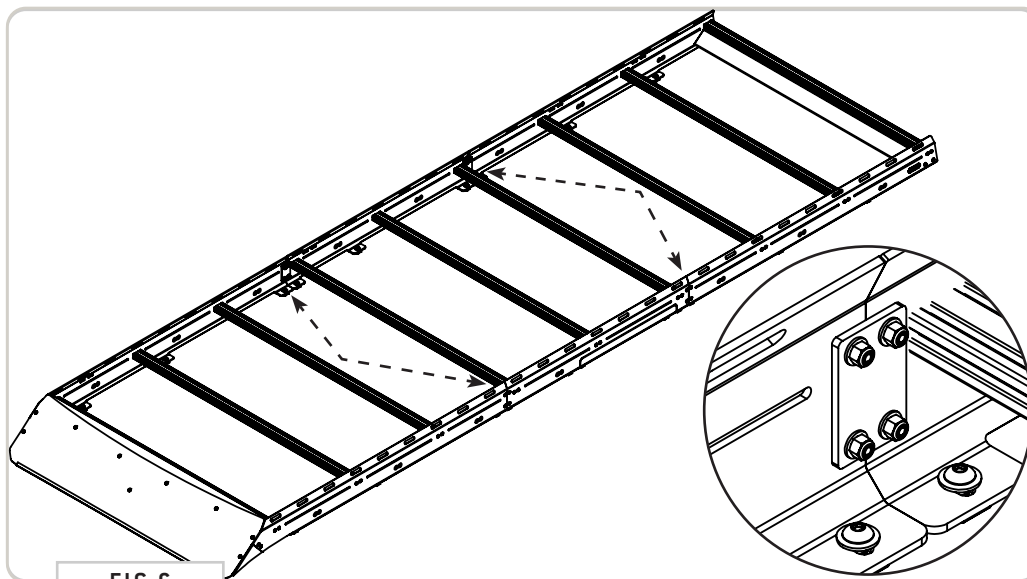
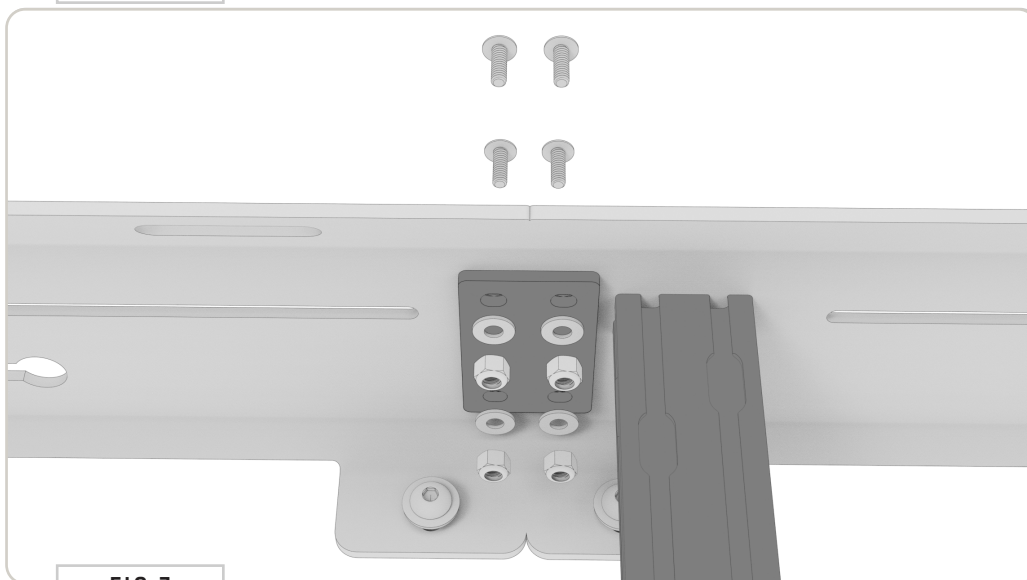

FIG 6
FIG 7
**2.2 Side Rail Connecting Plates:** Install the **Side Rail Connecting Plates** to the locations shown in FIG 6 using (4ea) **1/4-20 x 0.75 Flanged Button Head Screws, Flat Washers and Nylon Locknuts** to loosely join the Side Rails together (FIG 7).